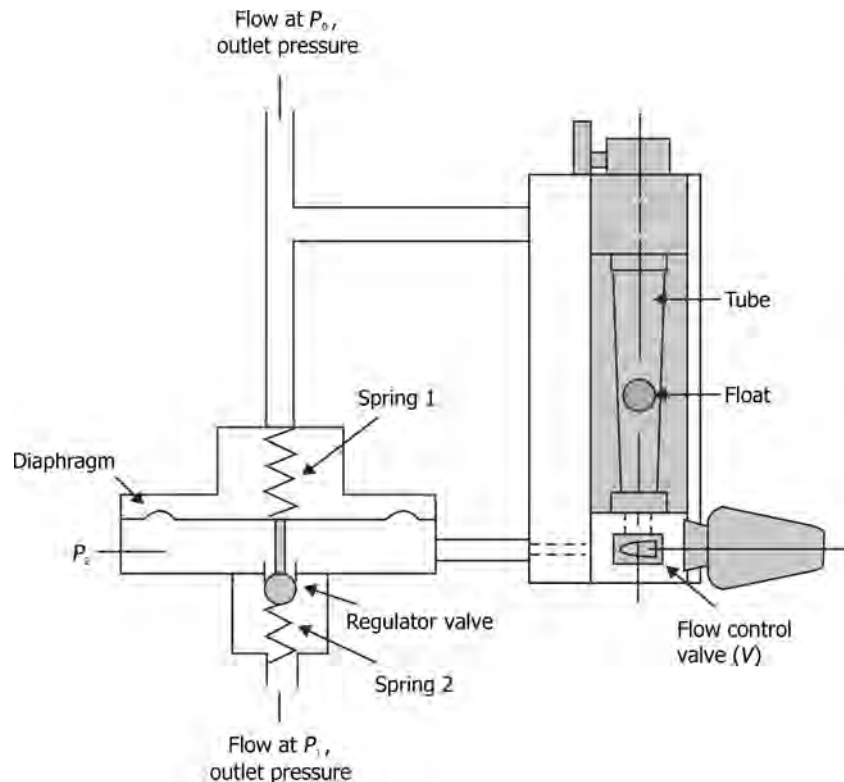

FIGURE 4.20 Purge flow meter design.
- Figure 4.20 illustrates its working: